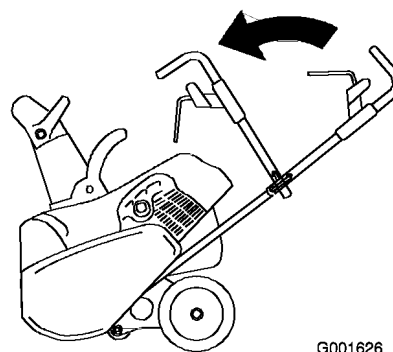

Figure 27
2. Fold the upper handle forward as shown (Figure 27).